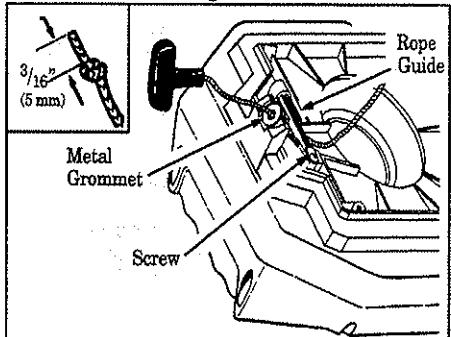

Figure 17
- Insert one end of the rope through the handle and secure with a knot. Leave  $3/16"$  (5 mm) pigtail behind the knot. Figure 17 (Inset).
- Insert the other end of the rope through the metal grommet, then under the rope guide. Figure 17.